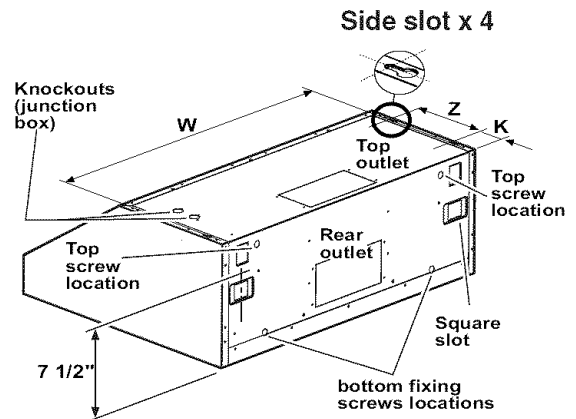

Figure 6a
4. After the hood installation height has been determined draw a horizontal line at a distance above the cooktop equal to the desired hood installation height plus 7- 1/ 2". See also Figure 6a.